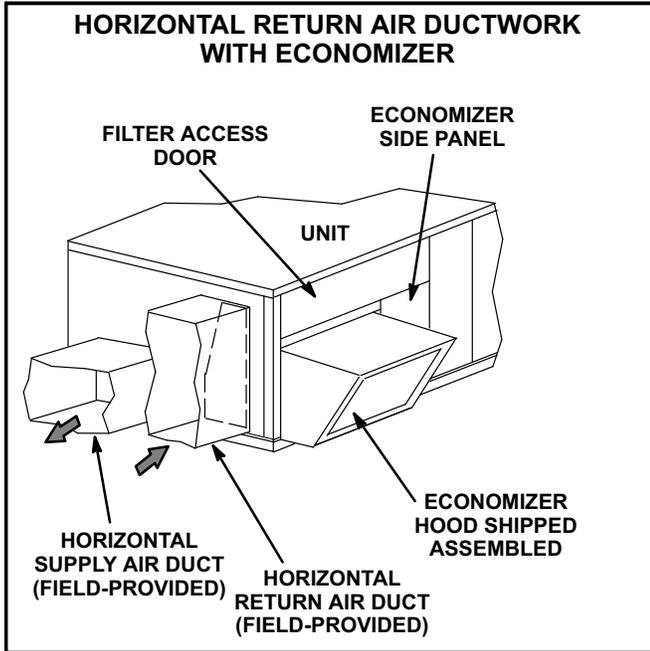

FIGURE 3
- 2- Install supply and return air ducts on the horizontal supply and return air openings on the unit. See figure 3.